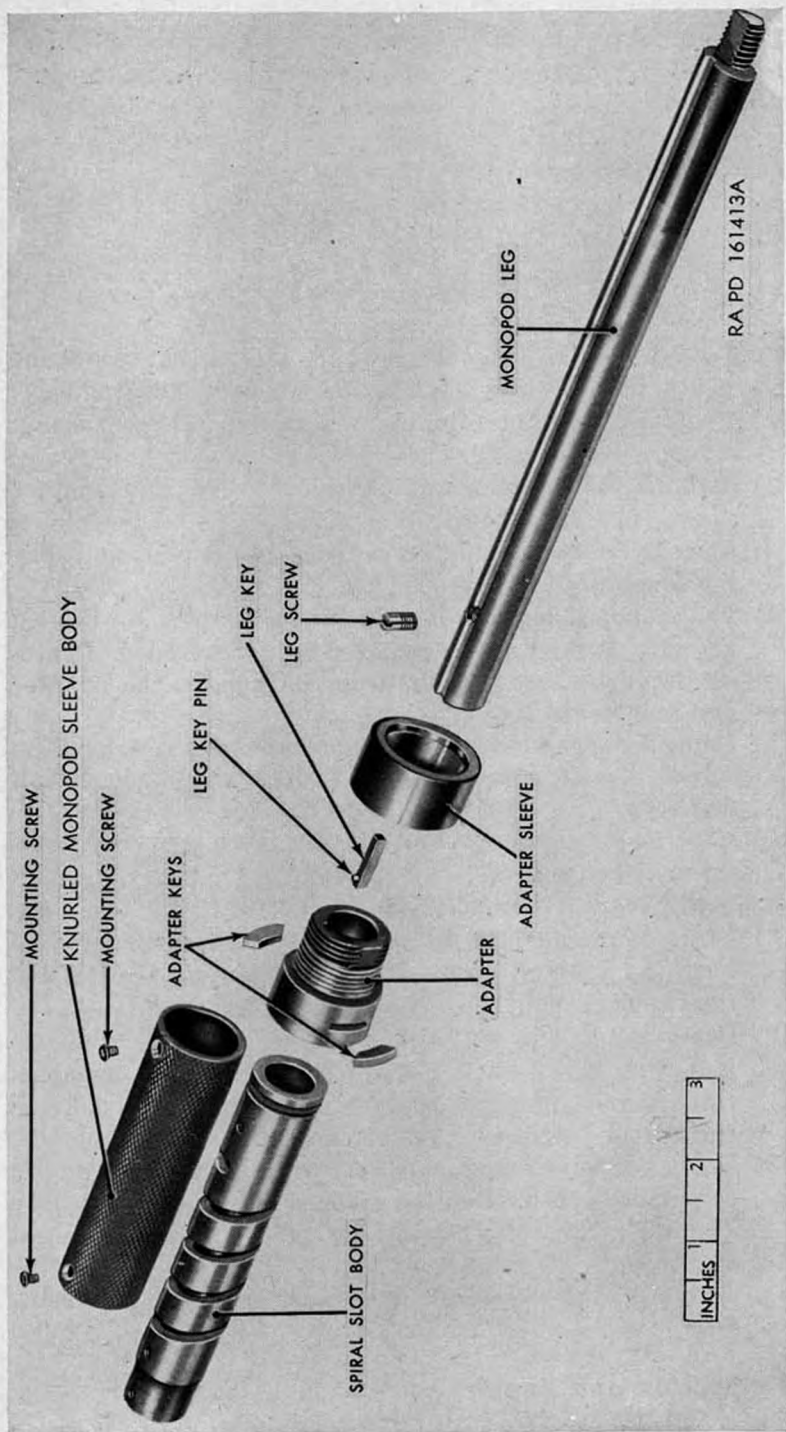

Figure 44. Monopod parts—exploded view.
- c.* Unstake the two mounting screws and remove them from the knurled monopod sleeve body (fig. 44). Slide the sleeve body off the monopod spiral-slot body.
- d.* Remove the leg screw (fig. 44) and slide the leg (with foot attached) from the bottom of the spiral-slot body.
e. Pry the assembly consisting of a key and pin (fig. 44) from the keyway in the adapter.
- (3) Using the same punch, unstake the two mounting screws and remove them from the knurled monopod sleeve body (fig. 44). Slide the sleeve body off the monopod spiral slot body.
- (2) For launcher M20, insert the upper end of the assembled leg and body into the bracket of the front clamp. For launcher M20B1, make sure that the aluminum tube of the contact lead wire assembly is placed in its notch on the barrel in the monopod support, and insert the upper end of the assembled leg and body in the monopod support cast integral with the rear barrel. Place monopod cap over upper end of the spiral slot body. Face it around so that the two mounting screw holes align with the tapped holes in the body. Install the mounting screws. The mounting screws for the cap are slightly longer than the mounting screws for the monopod sleeve body. Tighten the screws and stake them.
- (3) Slide the knurled monopod sleeve body over the spiral-slot body. Face it around to align the mounting screw holes of the sleeve body with the tapped holes of the spiral-slot body, and install the two mounting screws. Tighten the screws and stake them.
- (4) If the leg key was removed from the adapter, insert the key (with the leg key pin in it) (fig. 44) in the keyway of the adapter, fitting the leg key pin in its hole in the adapter.
- (5) Slide the adapter over the end of the monopod leg and the spiral-slot body, engaging the leg key in the keyway on the leg. Adjust the position of the adapter, so that the key slots of the adapter aline with the keyway encircling the end of the spiral-slot body. Insert the two adapter keys and slide the adapter sleeve over the adapter.
- (6) Slide the stock over the leg and adapter. Slip the spring washer over the adapter and place it against the stock. Place the spring washer so that the inner portion of the washer is raised away from the stock. Engage the adapter nut in the screw thread of the adapter, and tighten the nut sufficiently to flatten the spring washer.